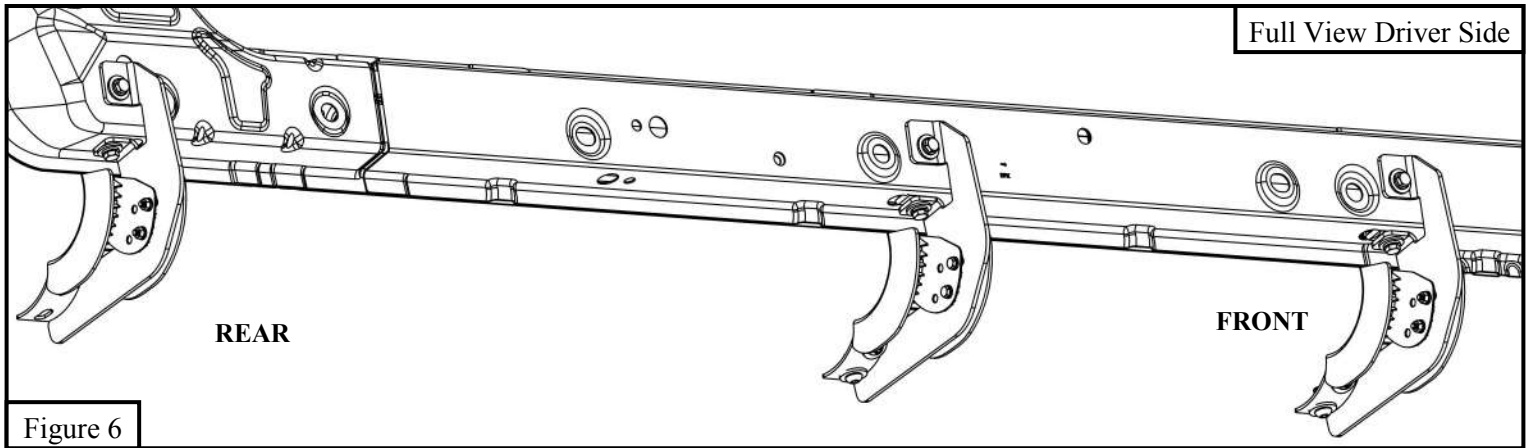

Figure 6
3. Install M8 u-clip nuts in the holes where the plastic covers were removed, see **Figure 2**. **Note:** See **Figure 6** for placement of all designated u-clips.